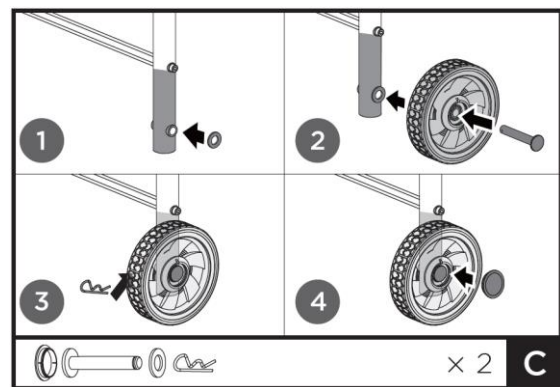

Fig. 4c
4. Attach the wheels (h) onto the rear leg connecting tubes (j), ensuring the side with two slots is facing outward. Align the mounting holes and secure the wheels with bolts, washers, and R-pins (C). Finally, attach the caps to the wheels. See Fig. 4c.